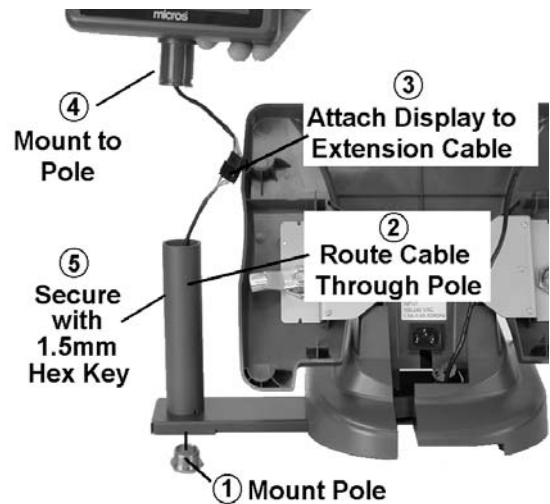

Figure 2: Assembling the Stand Pole Display
3. Refer to the numbered steps in Figure 2 to attach the pole to the bracket, run the interface cable, then attach and secure the LCD to the pole.